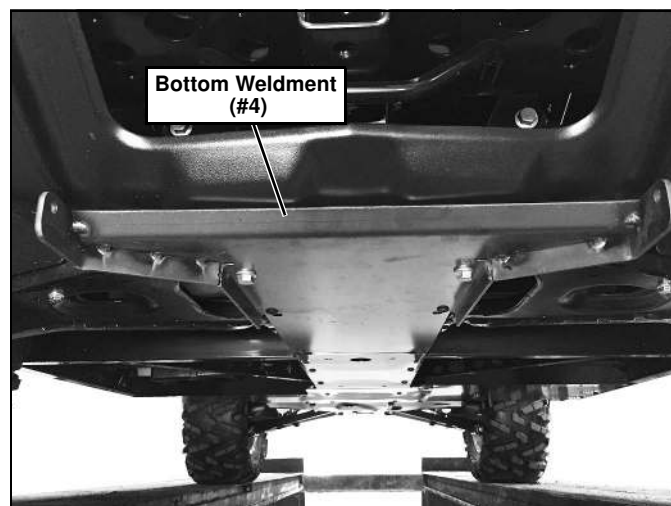

Figure 2
2. Position Bottom Weldment (#4) under bottom skid plate. Insert the original two Gator bolts and two socket cap screws previously removed. (See Figure 2.)